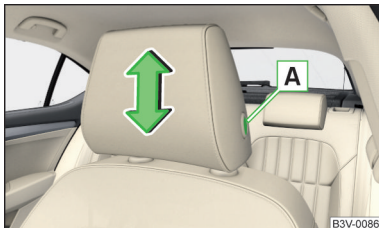

Fig. 94
► To **adjust the height**, hold the locking button **A** and move the rest in the desired direction » Fig. 94.